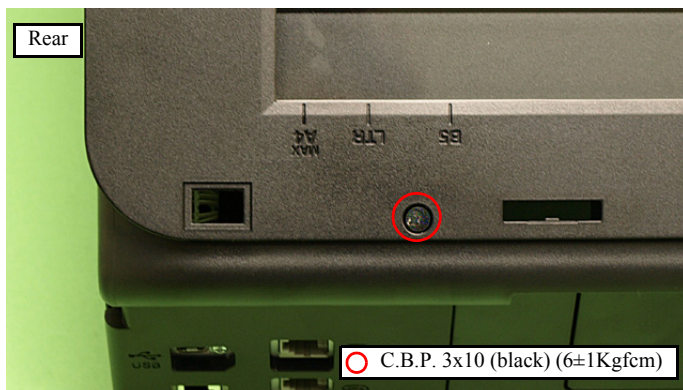

Figure 4-8. Removing the Scanner Unit (2)
3. While aligning the screw hole with the Scanner Unit open, secure them temporarily with the screw (x1) shown in Fig. 4-8. (It is recommended to prepare a pillow-shaped supporter to keep this position.)